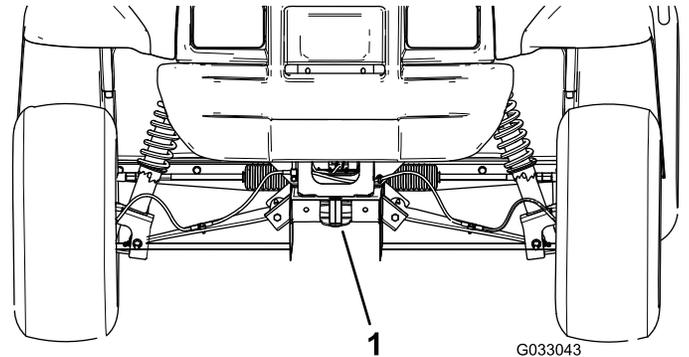

Figure 21
- The lifting point at the front of the machine is located at the front of the frame, behind the towing tongue (Figure 21).